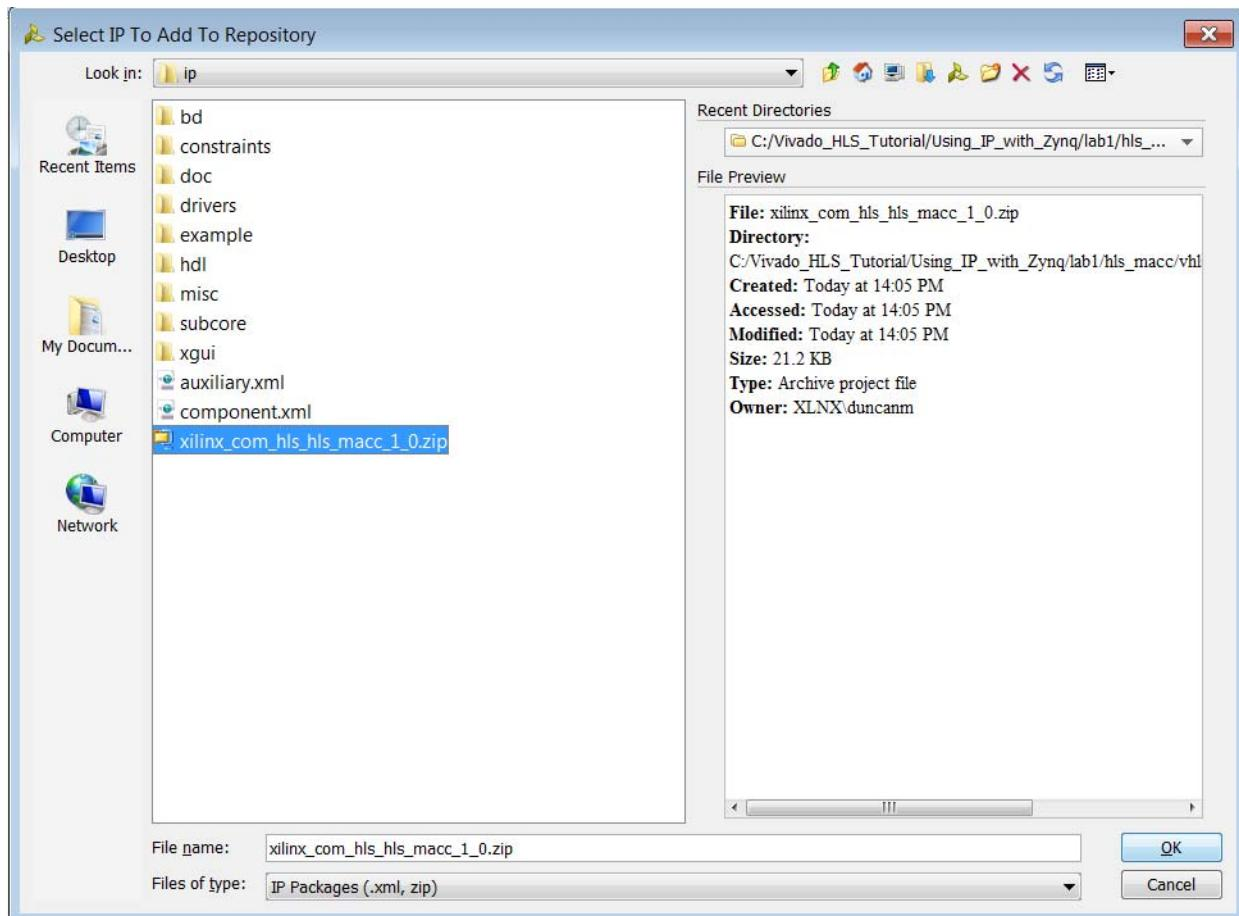

Figure 10-10: Add IP to the Repository
- c. Select the IP Catalog package `Xilinx_com_hls_hls_macc_1_00.a.zip` file (Figure 10-10).